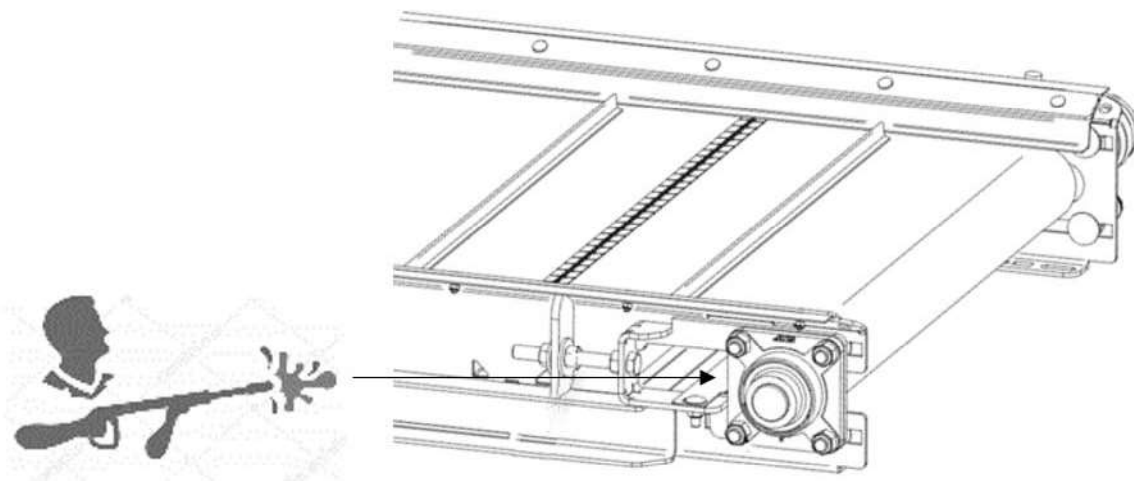

Figure 65 — Openings Provided for Cleaning the Conveyor
2. Using the provided openings (see Figure 65), direct the spray directly onto the conveyor pulleys. The excess water and dirt should come out the other side of the conveyor.